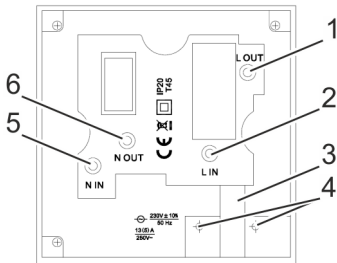

Fig. 2: Wiring diagram
1. On-wall connection wires: Undo the strain relief screws (Fig. 2/4) on the rear of the device and place to one side.
- 2 **Live wire (IN)**
- 5 **Neutral (IN)**
4. Insert the connection wires into the corresponding terminals in accordance with the wiring diagram (Fig. 2).
6. On-wall connection wires: Thread the connection wires into the device through the cable feed-through (Fig. 2/3).
7. On-wall connection wires: Tighten the strain relief clamp from the contents using the screws for the strain relief clamp (Fig. 2/4).